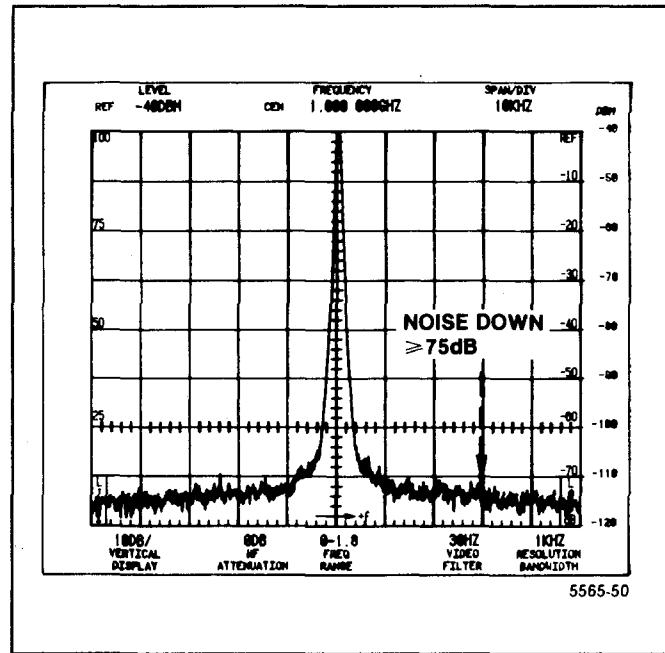

Figure 4-9. Typical display for measuring noise sidebands.
b. Check that the amplitude of the noise sidebands are 55 dB or more down from the reference level at 30 times the resolution bandwidth (3 divisions away from the center frequency position). See Figure 4-9.